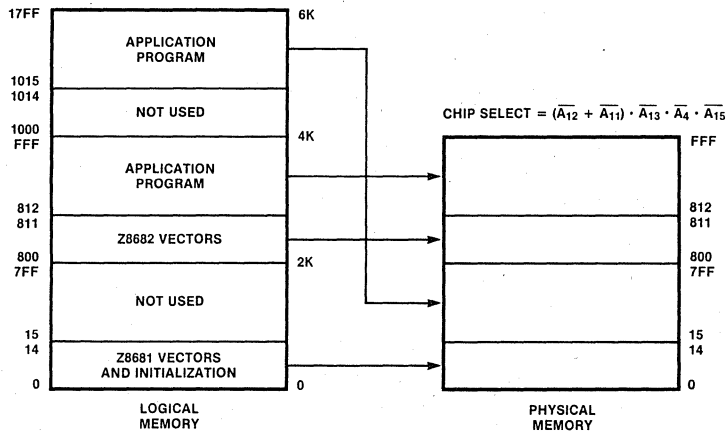

**Figure 15. Z8681/82 Logical Program Memory Mapping**
**Memory Mapping.** The Z8681 and Z8682 lower memory boundaries are located at 0 and 2048, respectively. A single program ROM can be used with either product if the logical program memory map shown in Figure 15 is followed. The Z8681 vectors and initialization routine must be starting at